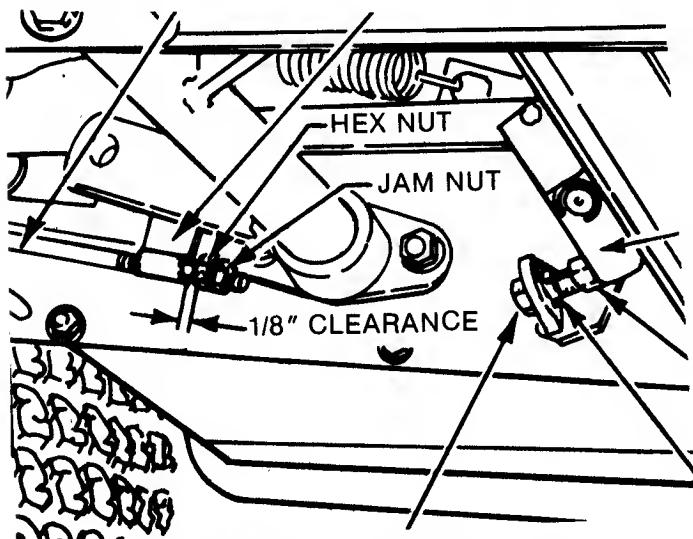

FIG. 4.27-LINKAGE ADJUSTMENT POINTS
Adjust screw no. 3 Fig. 4.27 to obtain zero clearance between end of screw and selector link, then tighten lock nut.
2. Loosen nut no. 2 Fig. 4.27 at end of brake rod.